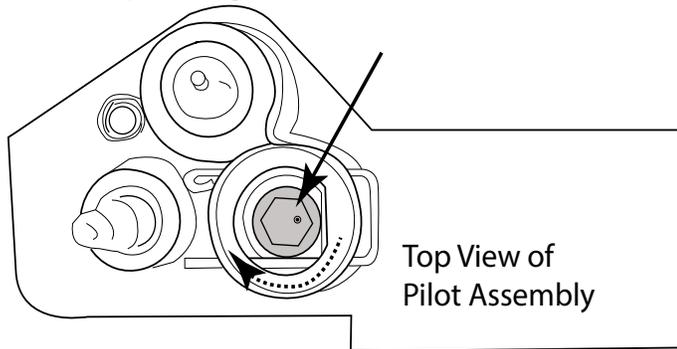

**Fig. 7** Pilot hood removal
Once the orifice has been converted to LP then re-install the pilot hood, ensure the clip is in place (if removed) and mount the metal pilot box back into place in the same manner you removed it from the burner pan. See Fig. 7.
**NOTE:** Figs. 7 and 9 provide a visual reference of the pilot orifice from Natural gas to LP gas through the vent hole of the pilot assembly.